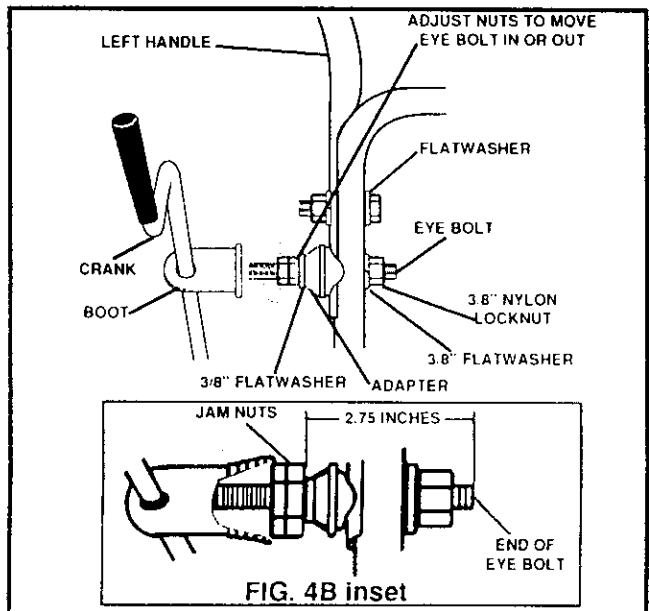

FIG. 4B
- Remove the 3/8" nylon locknut and flat washer from the eye bolt assembly (on the chute crank assembly). Check to make sure the two 3/8" jam nuts are tight. The jam nuts should be 2.75 inches from the end of the eye bolt (FIG. 4B inset).
- Install eye bolt through lower hole on the left hand side of the handle (See FIG. 4B).
- Install the 3/8" flatwasher and the 3/8" nylon locknut loosely on the eye bolt as shown in FIG. 4B.